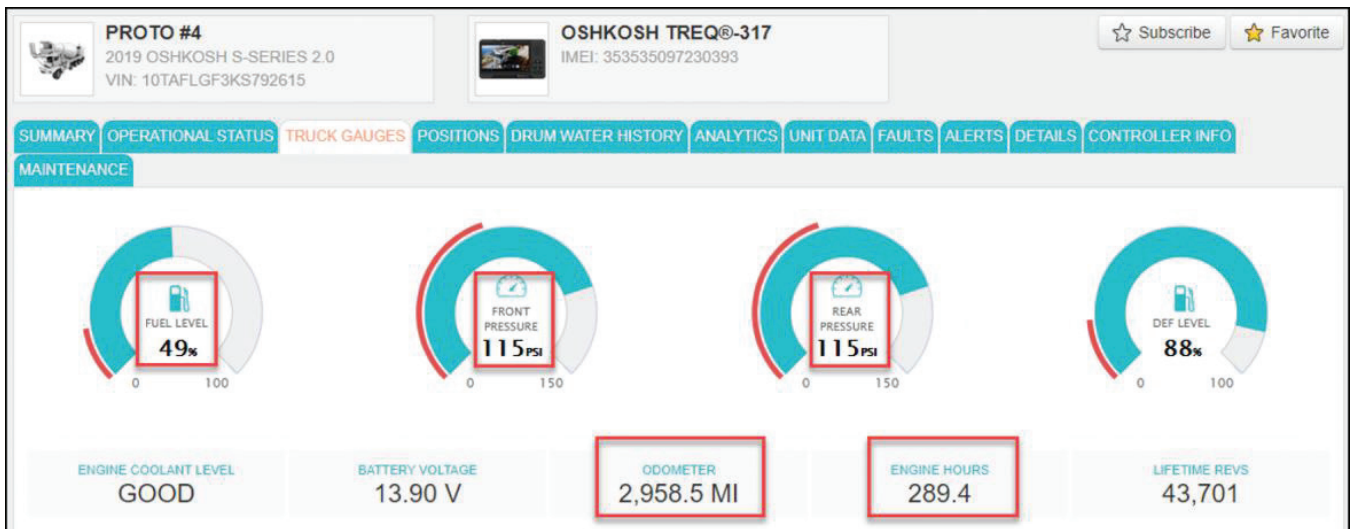

Figure 35
69. Check the ClearSky data by clicking on the TRUCK GAUGES tab and making sure the ClearSky gauges match what is shown on the gauges in the truck. See Figure 35. Gauges include fuel level, front air tank pressure, rear air tank pressure, odometer, and engine hours.